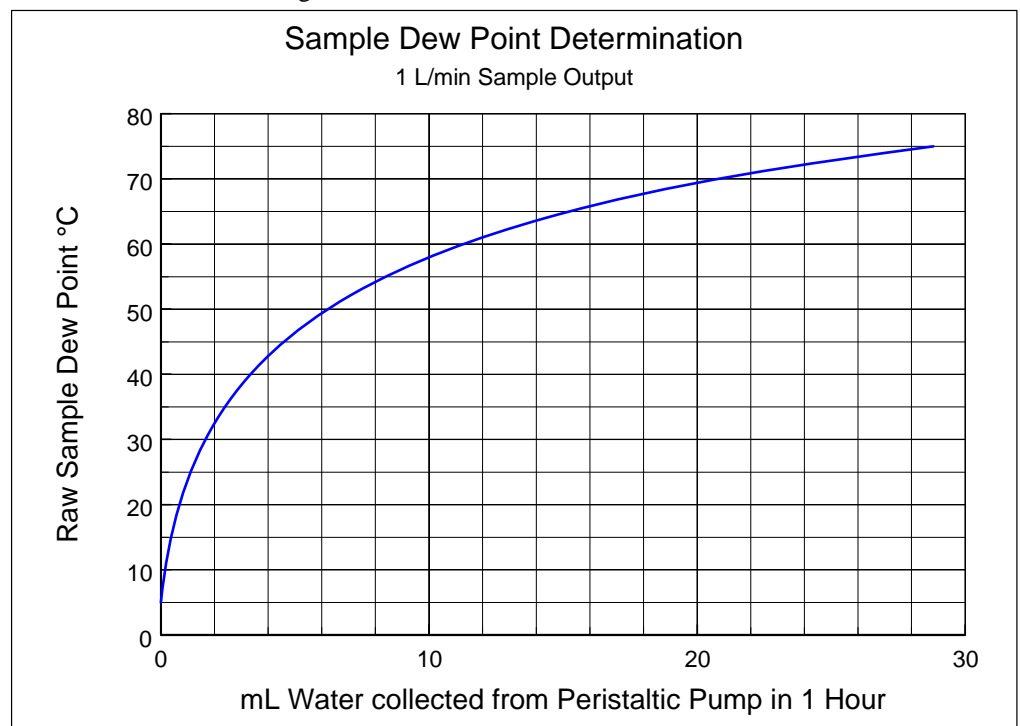

Figure 12 Sample Dew Point Estimation
6.3.1 An approximation for the sample dew point can be determined experimentally by collecting the water from one chamber's water dump. Set the flow rate in that channel to 1 L/min and collect the water for one hour. Look up the equivalent dew point for that volume of water in Figure 12.